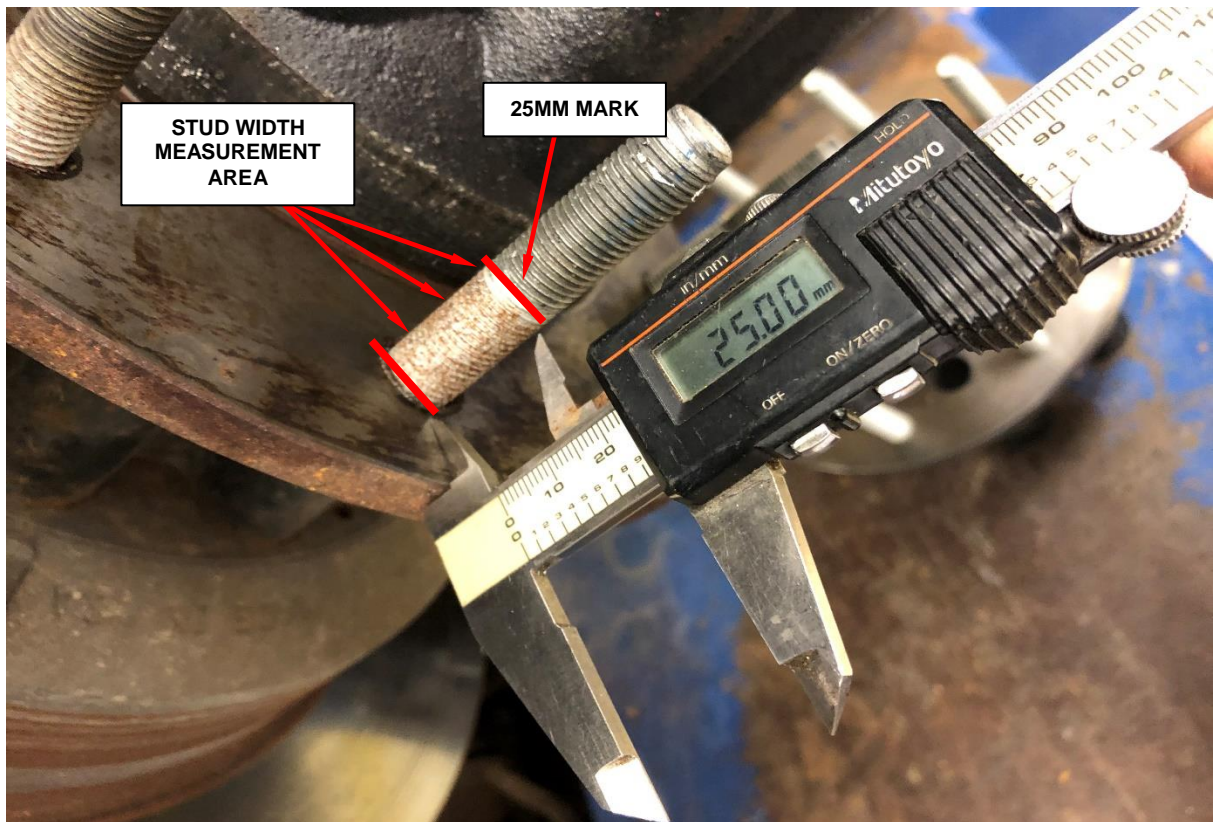
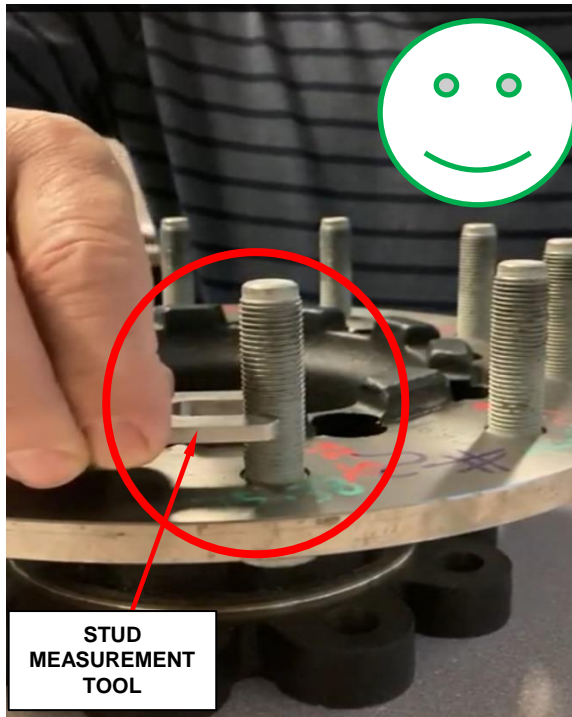
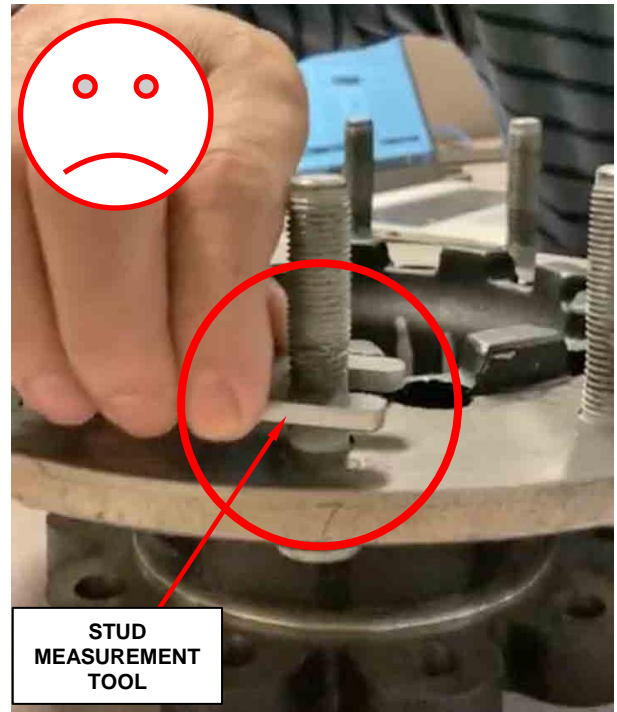

Figure 2 Stud Measurement Area
FIGURE 3 – Good Stud
Figure 4 – Bad Stud
3. Measure approximately 25mm from the axle flange surface up the stud and place a mark (Figure 3). If no measurement tool is available, use the color of the stud to identify the measurement area (Figure 2).
4. Attempt to insert the stud measurement tool in the following locations of the stud at different angles: (Figure 2).
5. Did the measurement tool insert fully into ANY of the wheel studs at all three locations? See sample illustrations below (Figure 3 and Figure 4).